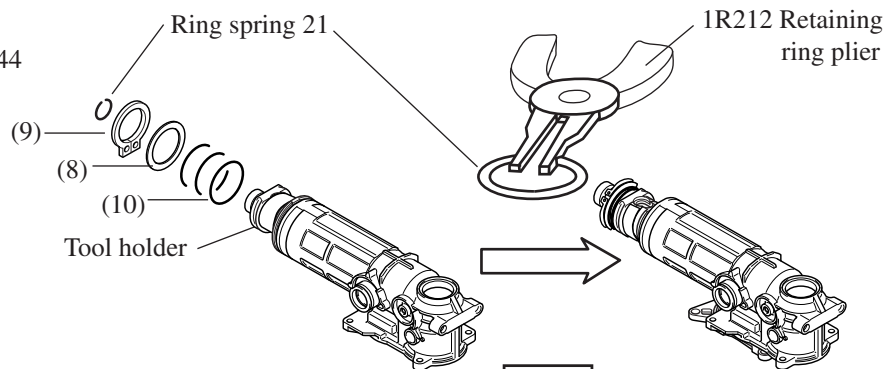

Fig. 20
- (2) Assemble compression spring 44, flat washer 37 and retaining 36 as illustrated in Fig. 20. And then, assemble ring spring 21 to tool holder, with No. 1R212 "retaining ring plier".
- (10) Compression spring 44